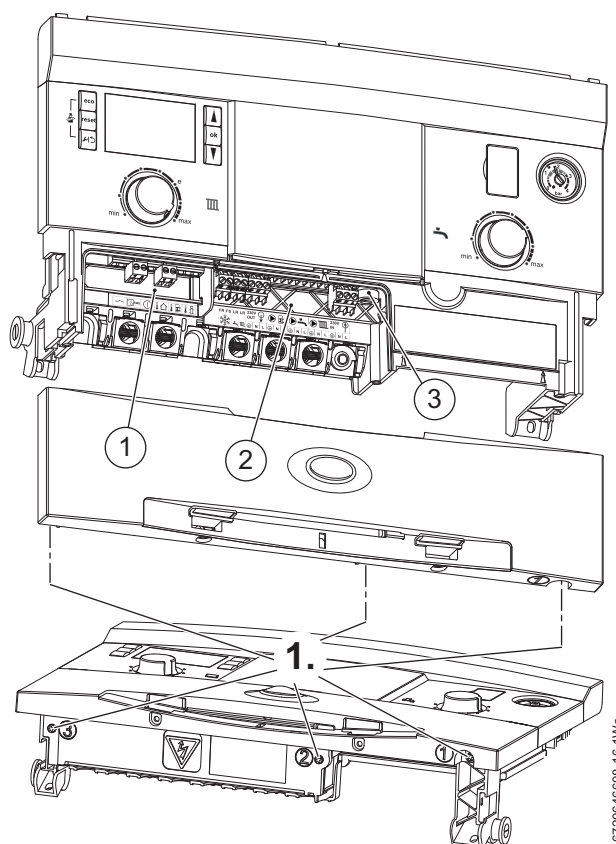

Fig. 42 Removing the installer access cover
1. Refer to figure 42 and release the three captive screws securing the Installer access cover.